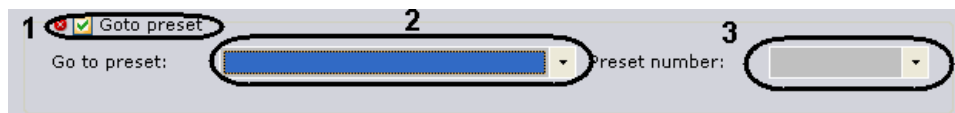

Fig. 6.5—31 Configuring switching to a PTZ camera preset
1. Select the **Go to preset** check box (Fig. 6.5—31, 1).
2. From the **Go to preset** list (see Fig. 6.5—31, 2), select the **Telemetry** object corresponding to the pan/tilt unit of the desired PTZ camera. The pan/tilt unit of any PTZ camera can be used, including one tied to another server (if it is enabled).
3. From the **Preset number** list (see Fig. 6.5—31, 3), select the number of the camera preset to which the camera should switch when the detector is triggered.